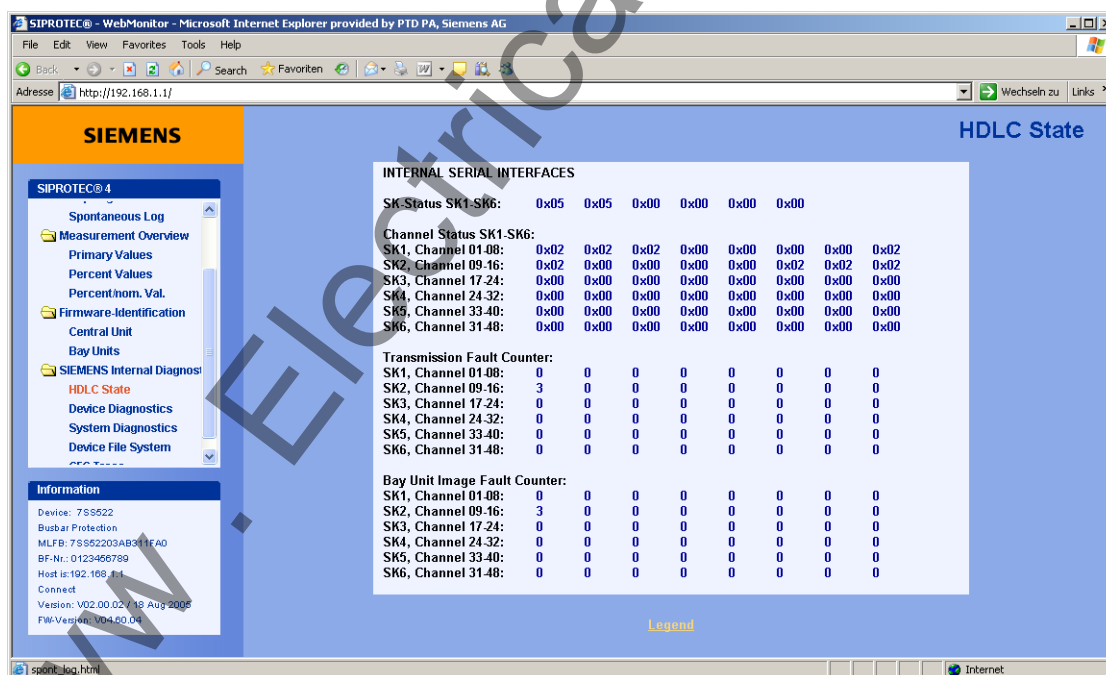

Figure 7-5 Example for the display of the HDLC status of the internal serial interfaces
- call the HDLC status (HDLC = **H**igh **L**evel **D**ata **L**ink **C**ontrol) of the internal serial interfaces (Figure 7-5, page 258), and